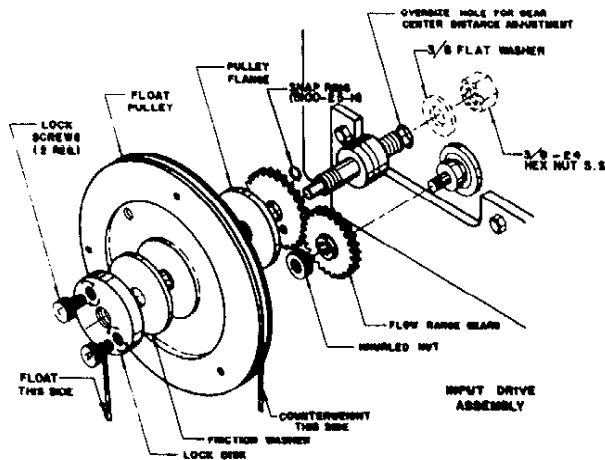

Figure 3. Input Drive Assembly
- 2.5 Install the float pulley between the friction washer and pulley flange. See Figure 3. Mount the pulley with the flat side away from the instrument. Thread the lock disc to within 1/16 inch of the friction washer. Leave the two knurled lock screws loose so that the pulley can be rotated freely on its shaft.
- 2.10 Depending on which model is being calibrated, use the center of the pen tip (2) or the right edge of the pointer (21) as the index. Rotate the cam (10) until the index indicates the flow value determined in the preceding step. While holding the cam in this position, clamp the float pulley by tightening the two knurled lock screws shown in Figure 3. Tighten them evenly.
- 4.2.4 Remove both flow range gears. See Figure 3 for the arrangement of parts on the two gear shafts.